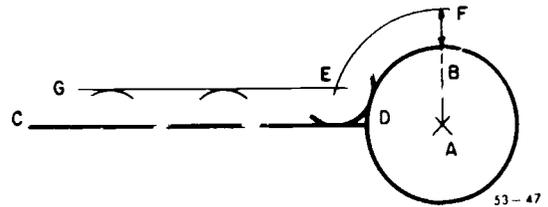

Figure 47. Constructing an arc tangent to a straight line and a circle.
13-11. **Constructing an Arc Tangent to a Straight Line and a Circle.** With the dividers set to the length of the radius of the circle, as in AB in figure 47, plus the length of the desired radius (BF), construct arc EF, using the center of the circle as a pivot point. With the dividers set to the desired radius (BF), construct a line parallel to line CD and extend it to intersect arc EF. Using point E as a pivot point, and with the dividers set to the desired radius (BF), construct the arc tangent to the line and the circle.